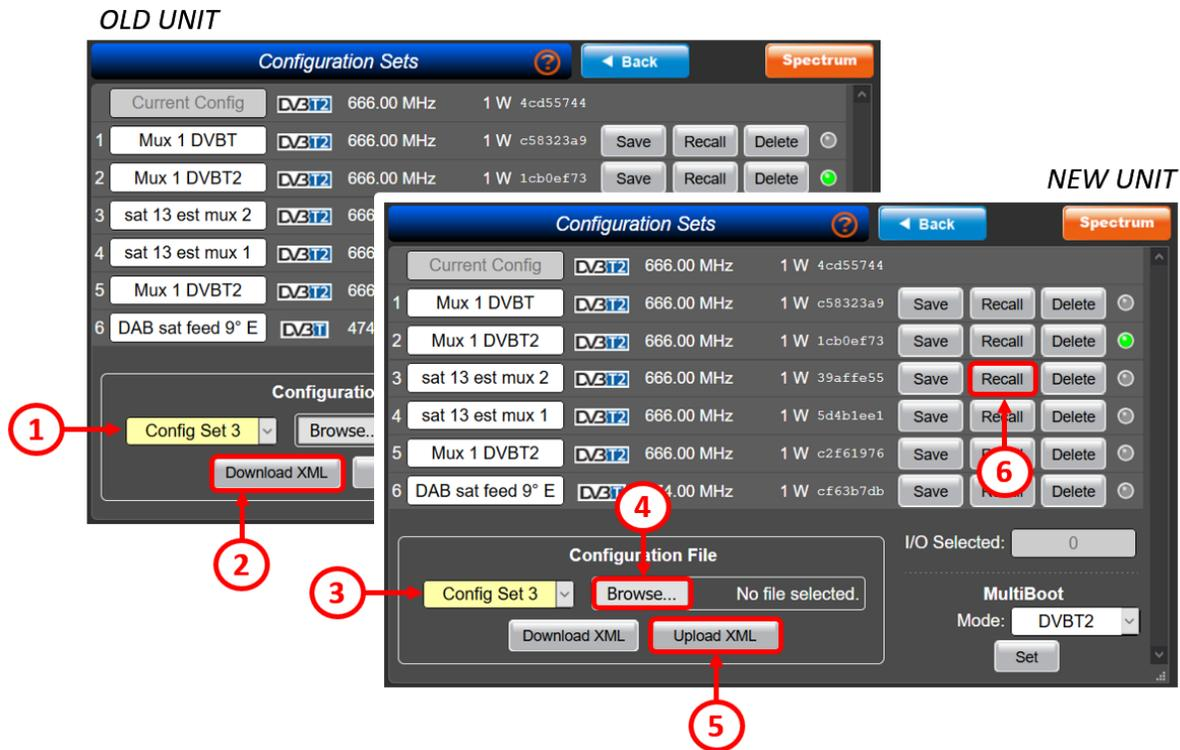

Figure 84: Prepare replacement unit
- STEP 6: Once the configuration file has been uploaded to the desired configuration set (set #3 in the example in Figure 84), press the **Recall** button to place it into service. The equipment should adopt the settings carried over from the old unit via the configuration file.